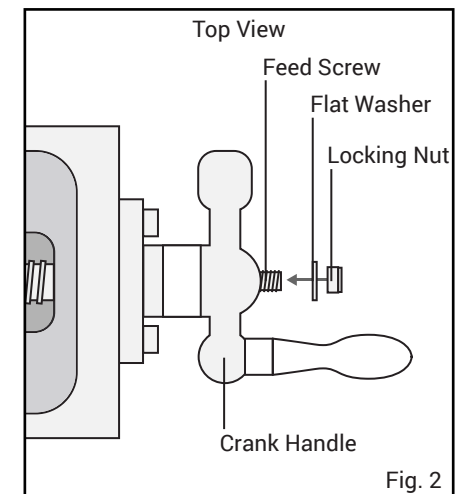

Fig. 2
- Mount one of the crank handles on the leadscrew, as shown in Fig. 2 below.
- Secure the crank handle to the feed screw using the included flat washer and locking nut (Fig. 2). Tighten the nut (turning clockwise) against the handle using a 10 mm socket (not included), then back it off a quarter turn (turning counterclockwise). Turn the handle a couple of times. If it is difficult to turn, loosen the nut. Adjust the nut as necessary to ensure that the handle turns smoothly and advances the slide properly.